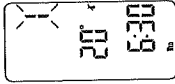

Fig. 10
- Press **PROG** until Event 1 flashes (Fig. 10).